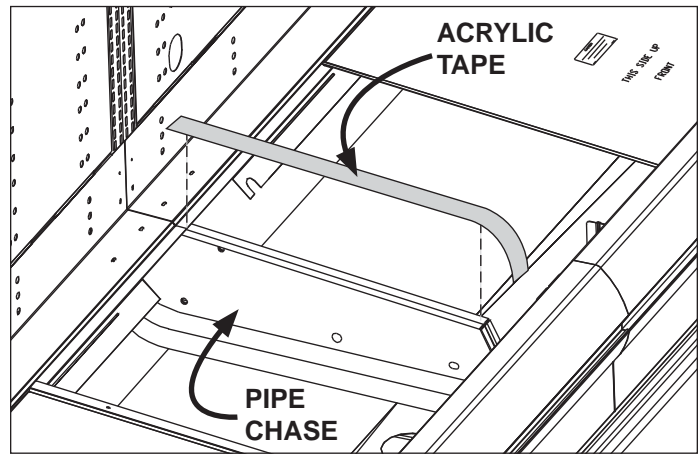

Fig. 4 Sealing the pipe chase
3. Seal the interior case-to-case joints with caulk (supplied), then apply acrylic tape (supplied) over the pipe-chase seam (Fig. 4). The tape acts as a watershed preventing water from settling in the case joint.